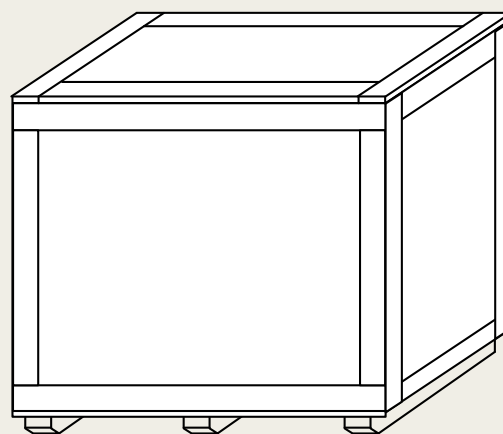

Figure 1: 601A Crate
The 601A-style cleated-panel design is commonly used for light- and medium-duty applications (see Figure 1).
Crates can be furnished either set up (nailed together) or what is known as “knocked down” (KD). Aside: in the crate industry, the front and back panels are called “sides,” and the left and right panels are called “ends” (See Figure 1).